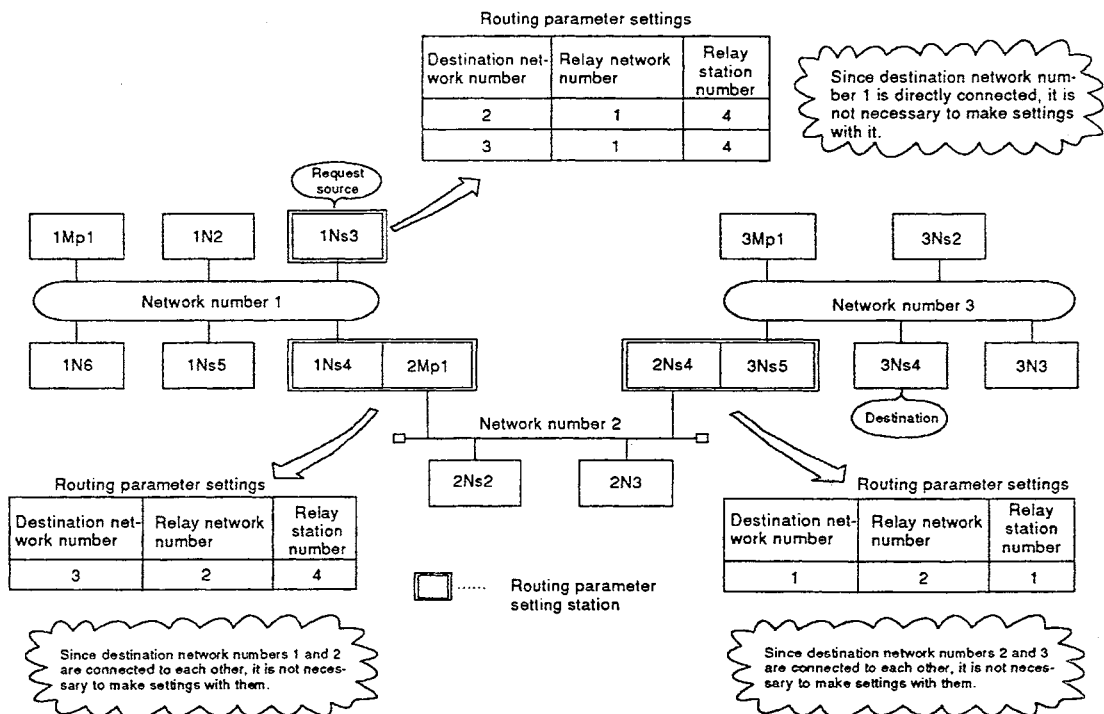

Fig. 10.12 Example System Configuration
- (1) The information set using the routing parameters can be summarized as follows: "in order to reach the station in network No.(), the data must pass through station No.Δ of network No.[] first".
- (2) In the routing parameters, a relay destination network number and relay destination station number must be set for each transmission destination (request destination) network number.
- (3) The settings made at each location for the routing function described in section 8.2.3 are shown in Fig. 10.12.
This example shows the routing parameter settings required to execute a transient transmission from station 1Ns2 to station 3Ns3 in the system configuration shown in Fig. 10.12.